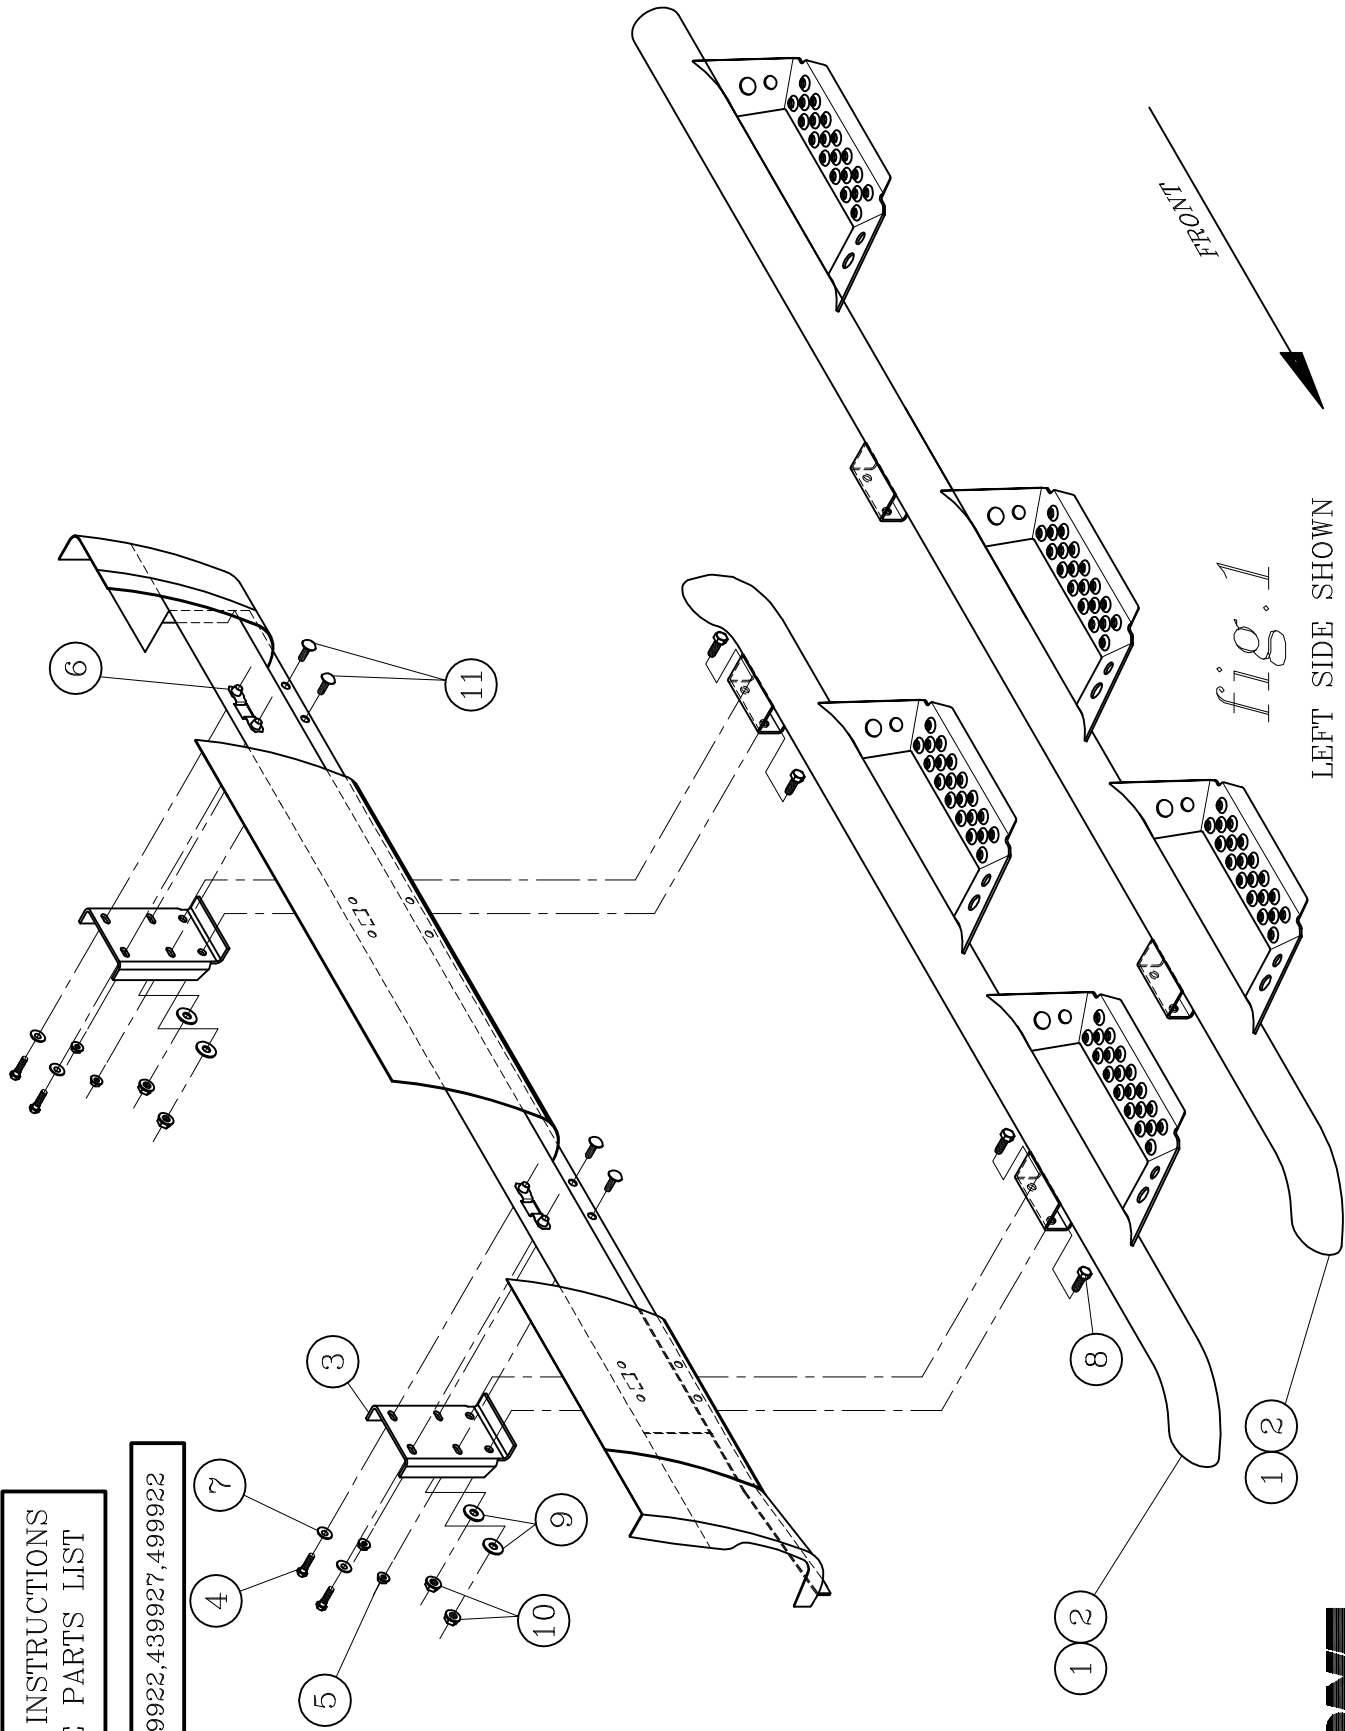

fig.1
- 2.1. LAY NERF BAR ASSEMBLIES (ITEM #1, & 2) ON FLAT SURFACE, AND ATTACH THE MOUNTING BRACKETS (ITEMS #3) TO EACH NERF BAR IN THE LOCATIONS AS SHOWN IN (FIG. 1), USING THE SUPPLIED 3/8-16 X 1 SCREW, 3/8" FLAT WASHER, & 3/8-16 SERRATED FLANGE NUT, (ITEMS #8, 9, & 10). LEAVE THESE FASTENERS FINGER TIGHT AT THIS TIME.